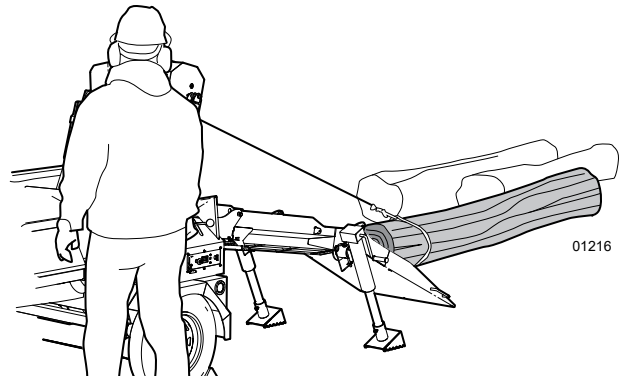

Fig. 34—Winch the first log to the machine
1. Winch the first log to the machine. Make sure the log does not catch on the front edge of the lead-in chute. See Fig. 34.